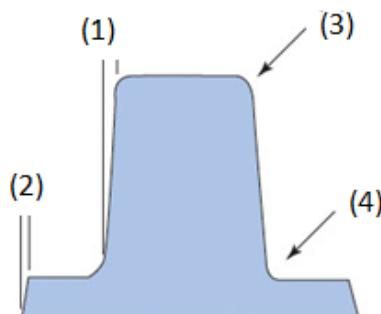

Figure 1[e]
- [e] Assume you are designing a model of a cast part, label the features in Figure 1[e].